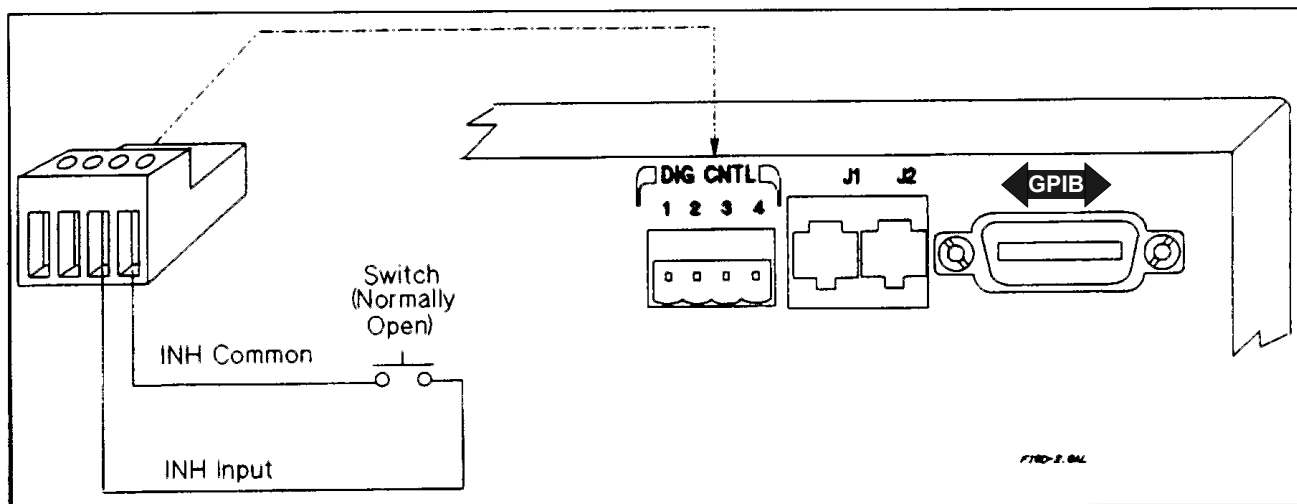

Figure D-2. Example of Inhibit Input
In Figure D-2, the INH input is connected to a switch that shorts pin 3 to pin 4 whenever it is necessary to externally disable the output of the supply. This will activate the remote inhibit (RI) fault protection circuit, causing the front panel **Prot** annunciator to come on. It also sets the RI event bit in the supply's Questionable Status Event register (see "Chapter 4 - Status Reporting" in the Programming Guide). To re-enable the supply after it has been disabled by the INH input, first open the connection between pins 3 and 4. Then clear the protection circuit either from the front panel (see "Chapter 5 - Front Panel Operation" in this guide) or over the GPIB (see the Programming Guide).